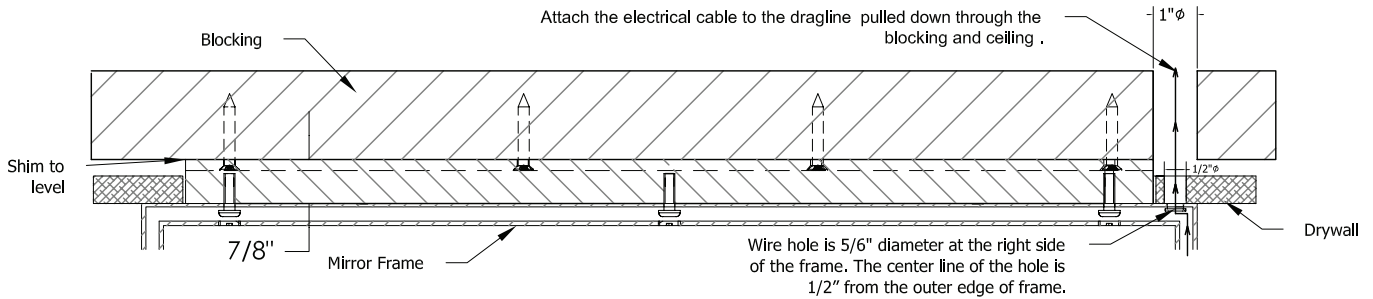

Fig. 8
7. Once you have screwed the frame to the attachment bracket, replace the threaded caps to seal the frame (Fig 8).